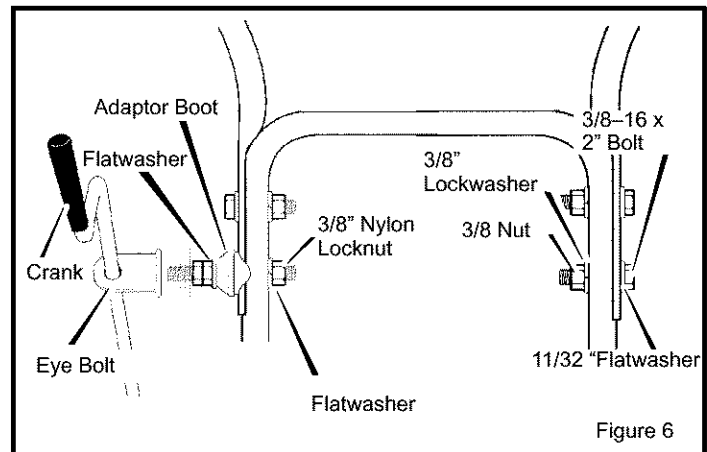

Figure 6
3. Install hardware supplied in the parts bag (screw, flatwasher, lockwasher, and hex nut) into right lower hole of upper handle (See Figure 6). Do not tighten until all bolts are in place.
5. Install the eye bolt through the lower hole on the left hand side of the handle. (See Figure 6).